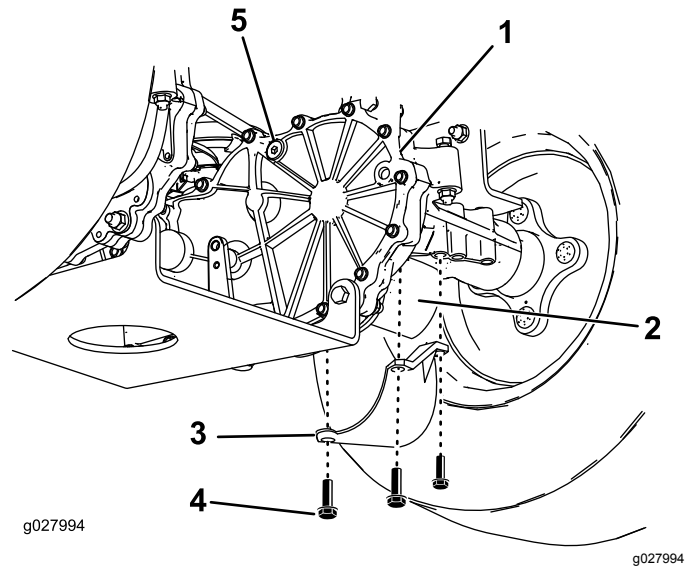

Figure 46
3. Locate the filter and filter guards on each transaxle drive system (Figure 46). Remove three screws securing the filter guard and guard.